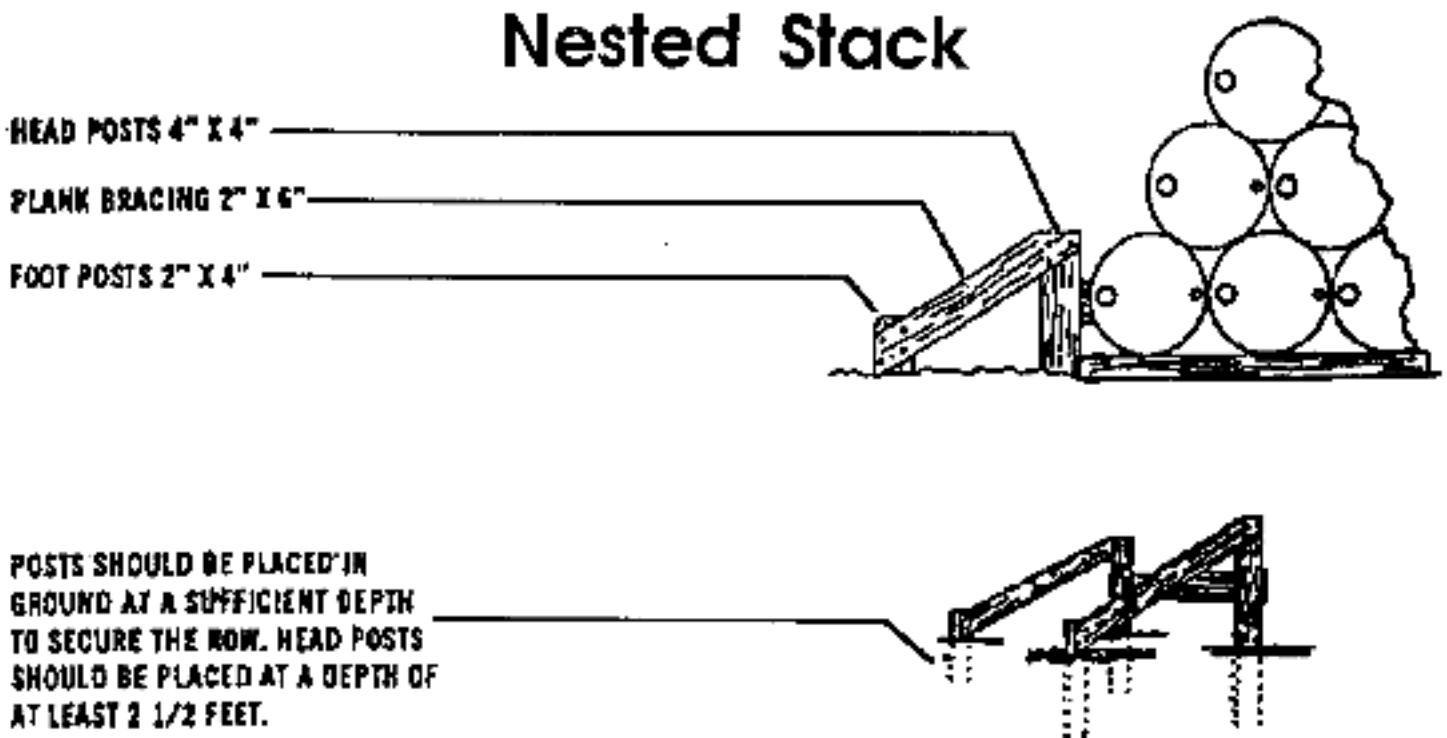

Figure I-2. Nested stack.
- Make a foundation for each unit of drums by laying out four 70-foot rows of 2 by 6 inch lumber or other suitable dunnage. Stand the lumber on edge, attaching cross braces between the rows to hold the lumber in place, as in figure I-2.
- Build bracings at the ends of the rows to keep the drums from rolling or toppling (figure I-2).